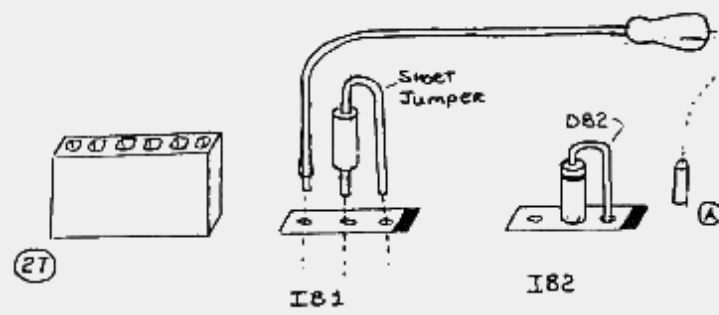
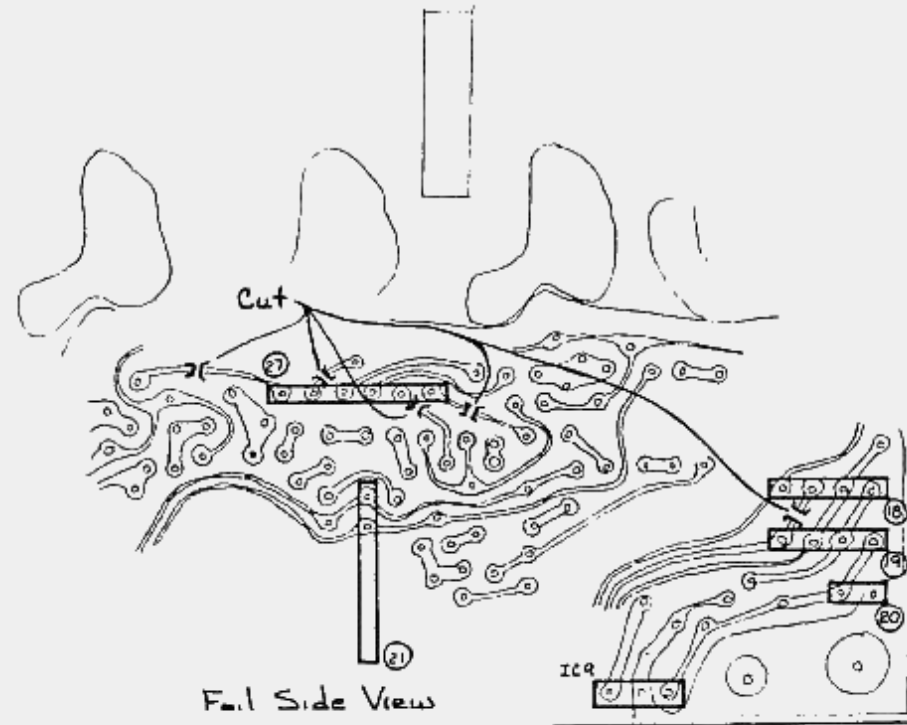

FIGURE 1
FIGURE 2
7. Install a short jumper wire, as shown in figure 1.
9. Install J401, J402 (may all ready be installed), J403, D403, D404, R403, R404, and R405 as shown in figure 2 (use the shortest lead lengths possible). Check to ensure there are no solder bridges, or splashes on the board.
10. Install Q401, Q402, R401, R402, D401 and D402 as shown on figure 2, again being careful to check for solder bridges, short, etc.
11. Check to see if D82 is installed, as shown in figure 1. If it is not, install it (1S1555). D83 should also be installed on the foil side of the board, as shown in figure 2.
12. Move the filter select jumper to the "A" pin, as shown in figure 1.